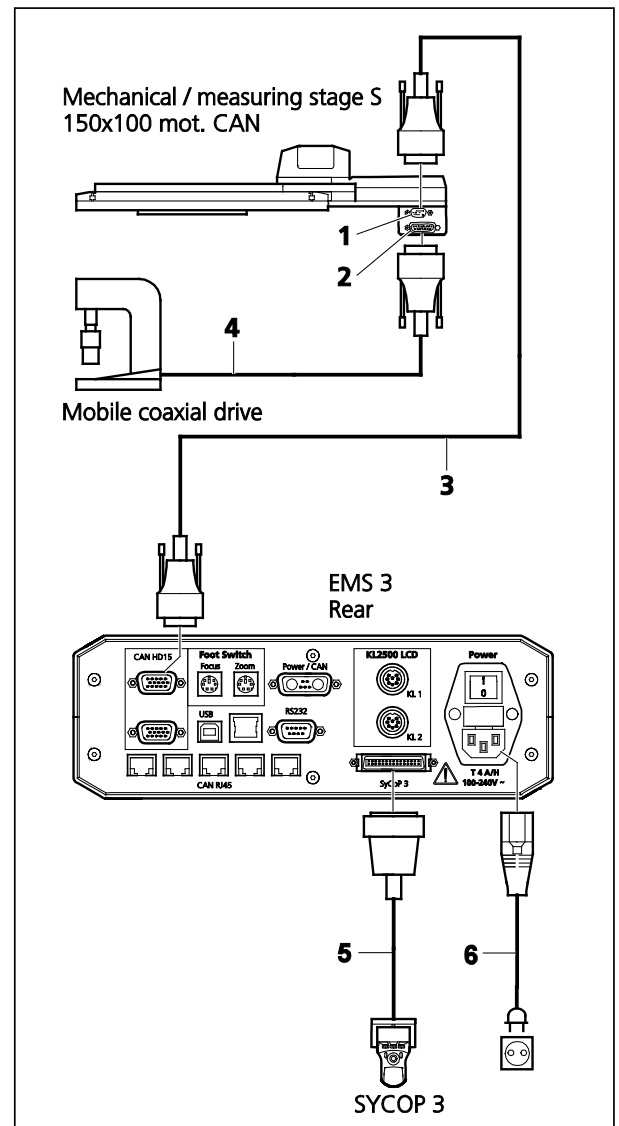

Fig. 9 Connections on the mechanical / measuring stage
- Connect the stage directly to the corresponding plug-in point **CAN HD15** of controller EMS 3 with the CAN extension cable HD15 (Fig. 9/3) via the upper connecting socket (Fig. 9/1).
- Connect SOCP 3 (Fig. 9/5) to EMS 3
- In addition to or as an alternative to SYCOP 3 the mobile coaxial drive XY CAN can be connected using the latter's connecting cable (Fig. 9/4) via the lower connecting socket (Fig. 9/2) of the stage.
- Connect EMS 3 to the mains supply using power cable (Fig. 9/6).